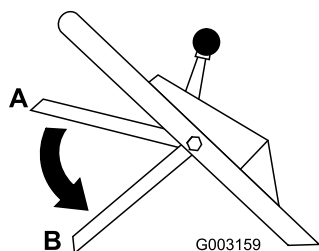

Figure 23
11. Release the control bar; refer to position B in Figure 23. You should hear a “bang.” The blade should stop in 3 seconds.
2. Move the control bar down to its lowest position (Position B in Figure 23).